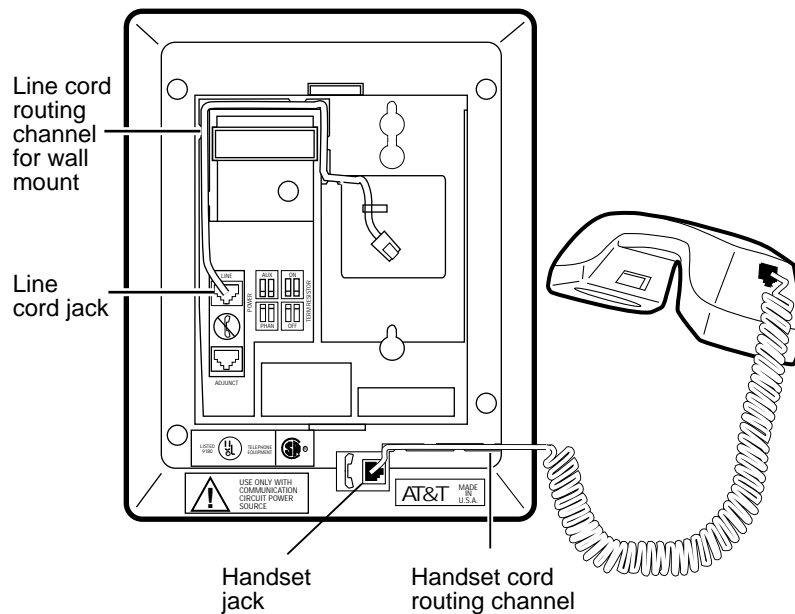

FIGURE 7-9. Line Cord Routing for Wall-Mount
8. Pass the 1-foot line cord through the channel, as shown in Figure 7-9.
9. Snap one end of the coiled cord into the Handset cord jack (marked with the handset symbol) on the back of the voice terminal, as shown in Figure 7-9. Thread the cord into the channel leading to the side edge of the voice terminal; the handset cord will then lead off the side of the voice terminal.